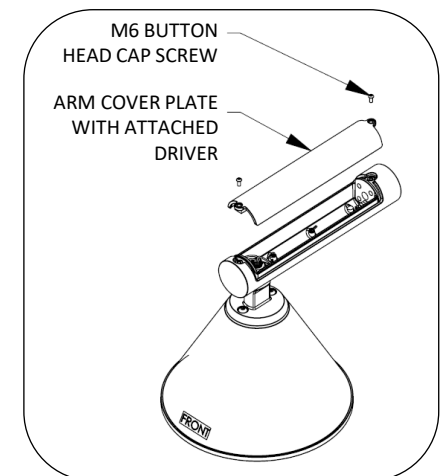

Fig. 5 – REMOVE ARM COVER PLATE
2. Remove luminaire arm cover plate, see Fig. 5. Set hardware aside. Driver components are attached to cover plate, leave installed.